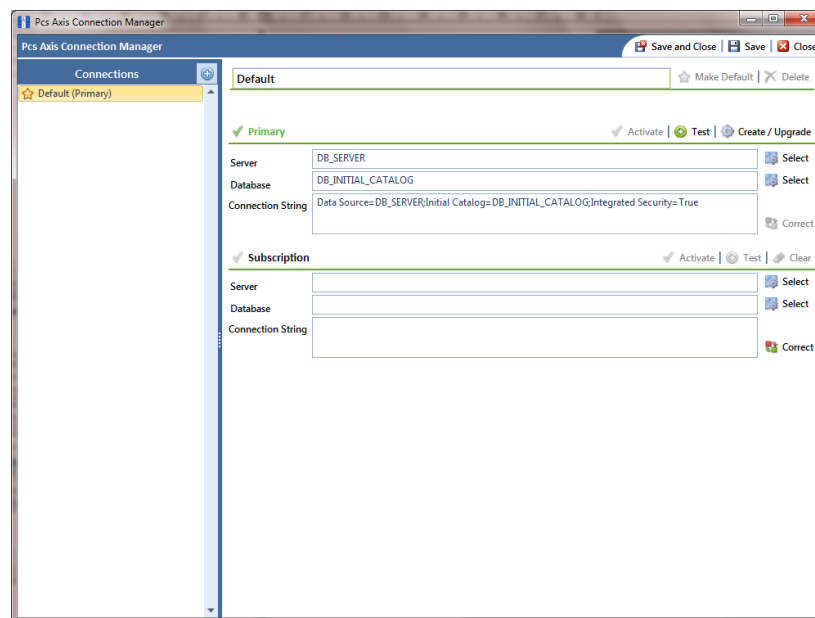

Figure 11-4. PCS Axis Connection Manager
- a Click the Windows **Start** button  and navigate to the program folder labeled *PCS Axis 1.9*. Select **PCS Axis Connection Manager 1.9** to start the program (Figure 11-4, page 569).